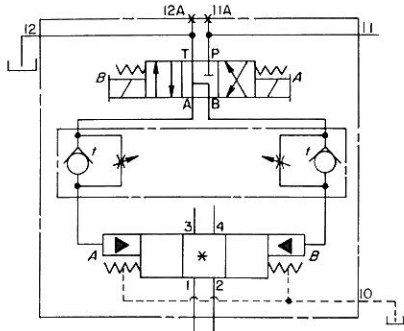

FIG. 1- VDC/32**SSAA_A/5T4SS /UUN
Figure 1. Pressure Drop vs Flow for N4 Spools. Curves are based on 270 SUS fluid with a specific gravity (SG) of 0.88. Different viscosity effects can be predicted from